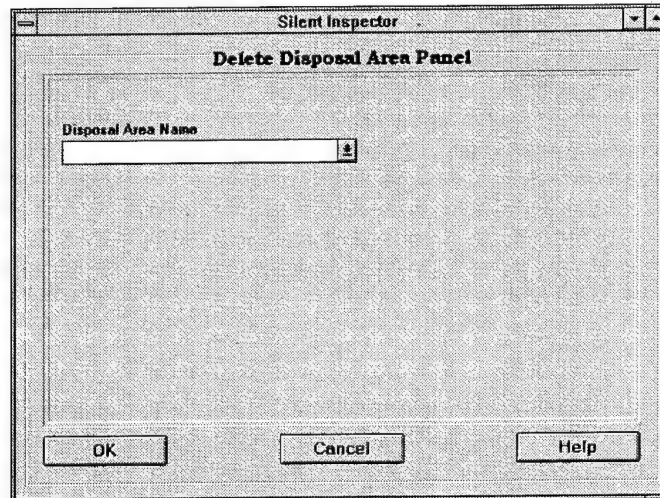

Figure 30. **Delete Disposal Area Panel** screen
- Click on **Delete** under the **Disposal Area** menu, and the **Delete Disposal Area Panel** screen (Figure 30) will appear.